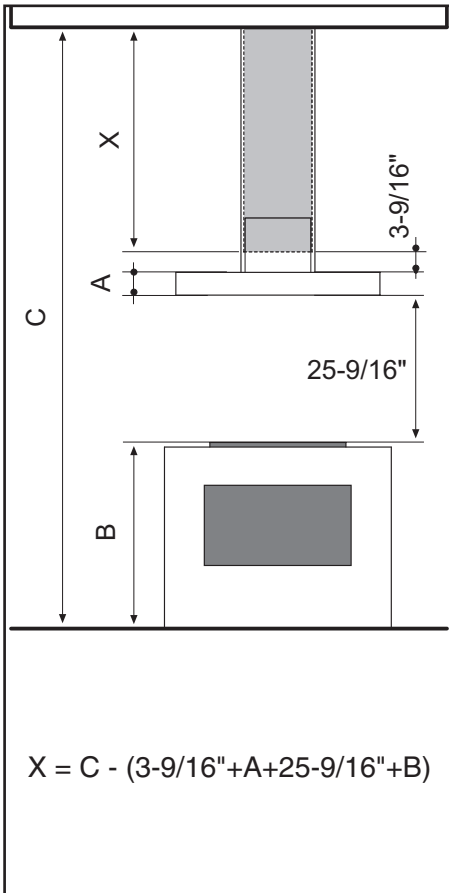
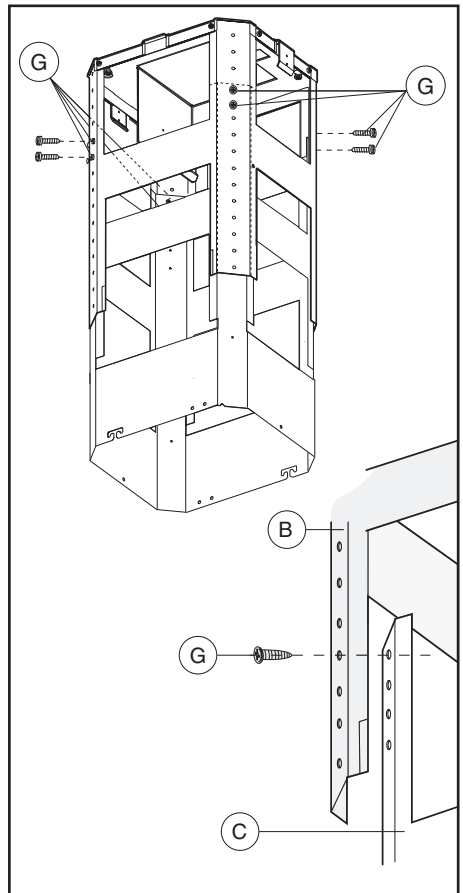

Fig.5
Fig.6
Adjust the height by referring to the amounts indicated in (Fig.5) and block it using the 8 screws **G** that are supplied (Fig.6).
**Fig.5:** To join the lower chimney **1** with the upper one and to fix it carefully with the adhesive tape **2**. To fix the flexible pipe (**6" ROUND FLEXIBLE METAL DUCT PIPE NOT INCLUDED**) on the flange of connection **3**.